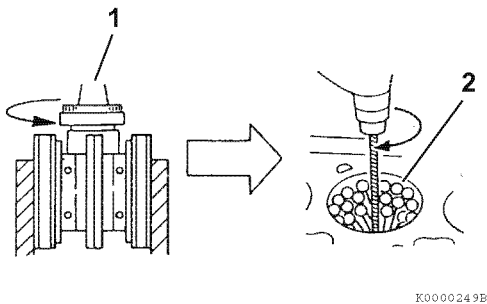

Figure 6-129
2. **Honing** - Minor cylinder imperfections may be corrected by using a rigid cylinder hone (1, **Figure 6-129**). Be sure not to exceed the maximum cylinder bore specification.
Deglazing - A used cylinder that did not require boring or honing, should always be deglazed with a ball hone (2, **Figure 6-129**) before installing new piston rings. This will properly prepare the cylinder surface to allow new piston rings to seat properly.
- Use a 300-grit hone at 300 - 1200 min⁻¹ (rpm) (Figure 6-129).